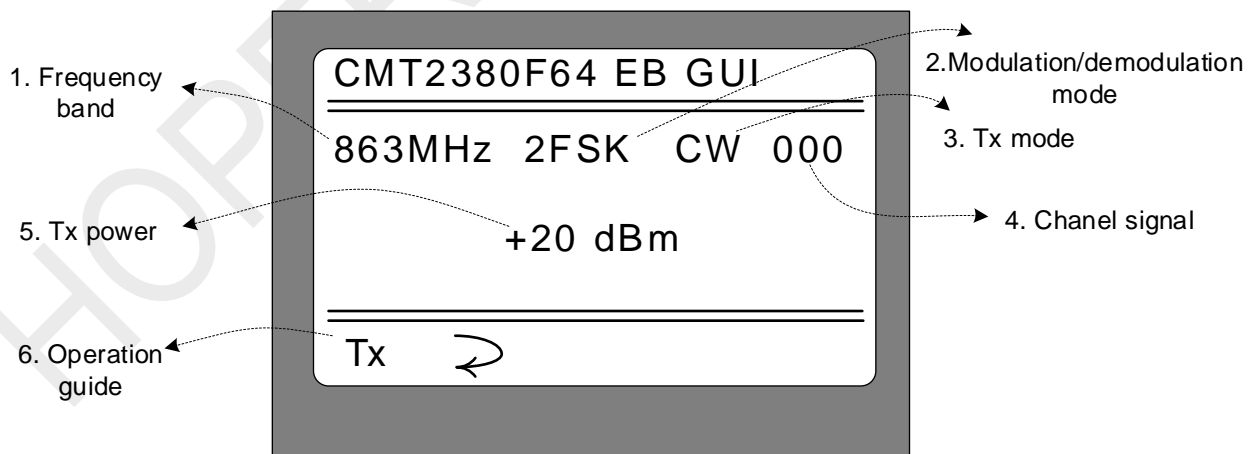

Figure 3-3. CW Tx Working Mode
After selecting "CW Tx" mode, short press S2 "○" in the main menu interface to enter the CW Tx working mode, as shown in Figure 3-3 below.
1. Under this interface, short press S3 again to stop the current carrier transmission mode and return to the upper menu (as shown in Figure 3-3). That is, the carrier transmission can be alternately enabled and stopped by short pressing S3.